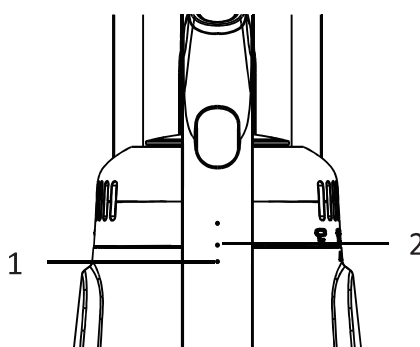

Fig. 2
3. The light indicator shows the status (Fig 2):
- Light indicator 1 (Fig 2) will flash when the battery is running low and needs to be recharged. If the battery is not charged, the vacuum will switch off.